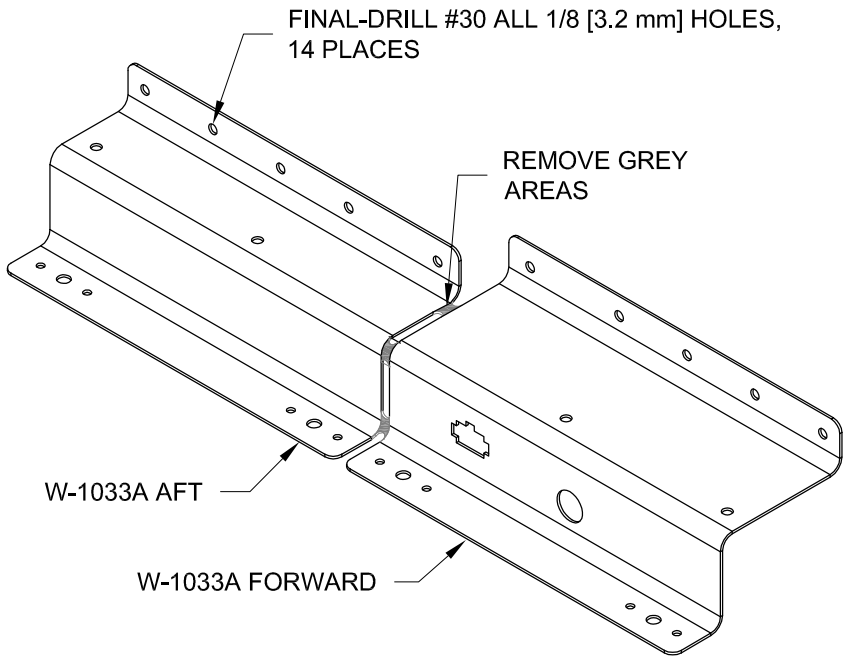

FIGURE 1: AILERON TRIM BRACKETS
Step 1: Separate and label the W-1033A Aileron Trim Mounting Brackets as shown in Figure 1.